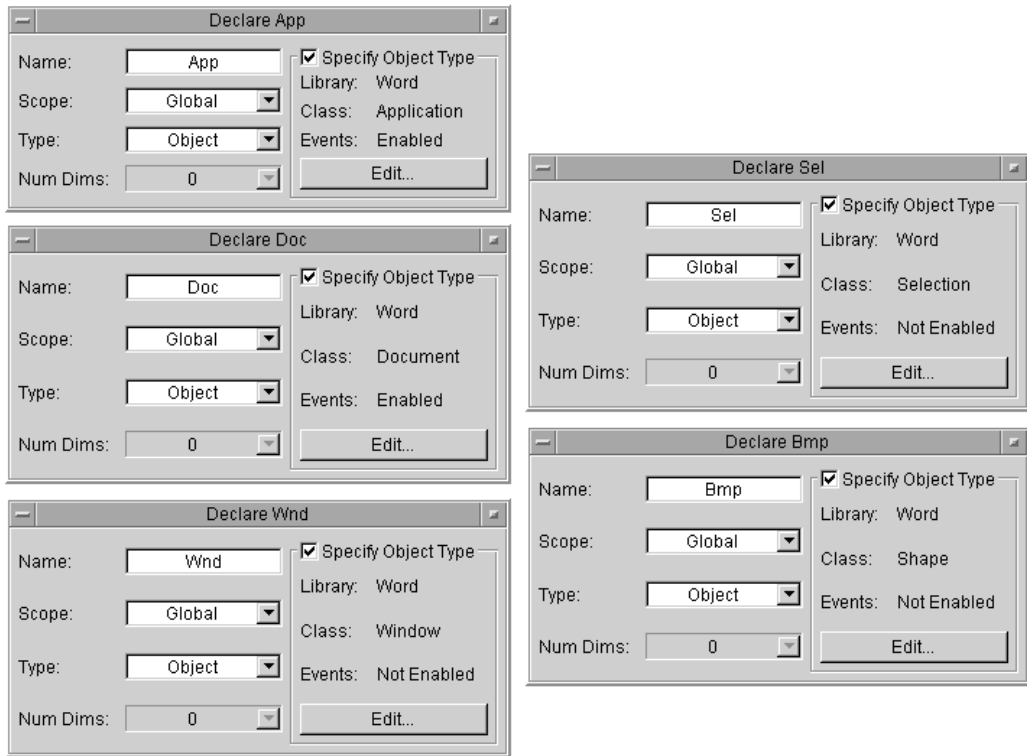

Figure 159 Object Variables
- e Select Enable Events where the class permits it. Iconize these five icons. See Figure 159 for the open view of these variables.